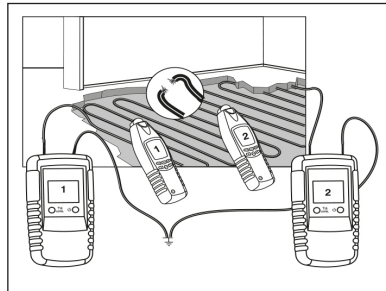

Figure 7:
- A second transmitter is required for this application. (Figure 7)